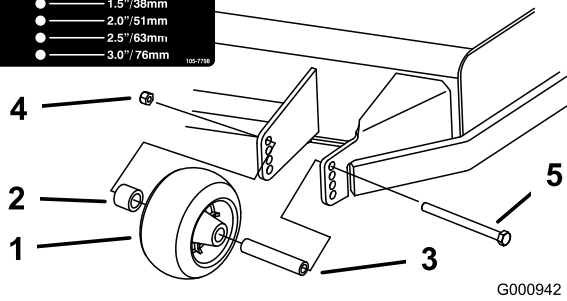
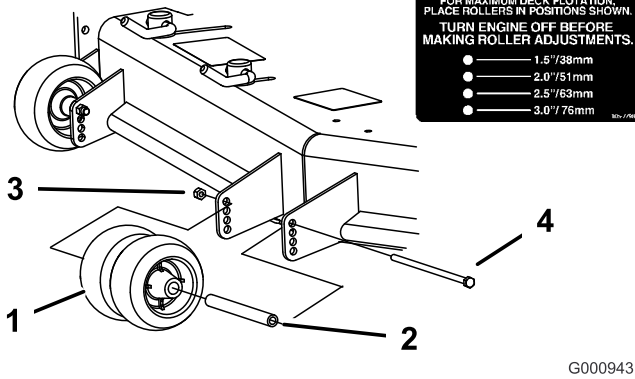
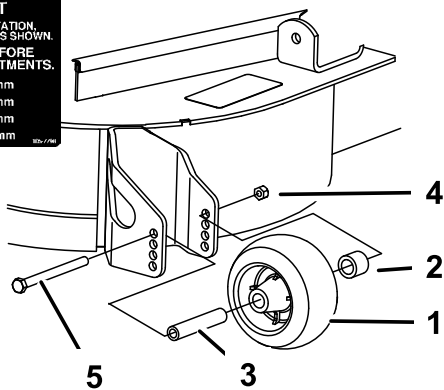

Figure 17
Figure 18
Figure 19
3. After adjusting the height-of-cut, adjust the rollers by removing the flange nut, bushing, spacer, and bolt (Figure 17 , Figure 18 and Figure 19).
- Note:** The two middle rollers will not have a spacer (Figure 18).
5. Install the flange nut bushing, spacer, and bolt. Torque to 40-45 ft-lb (54-61 N-m) (Figure 17 , Figure 18 and Figure 19).